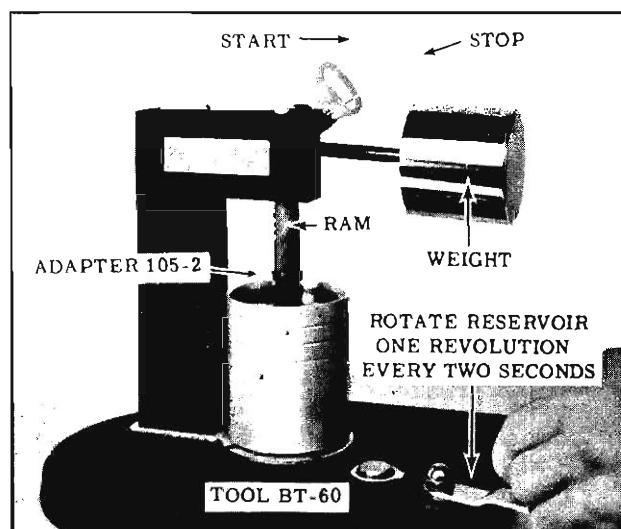

Fig. 3-117 Valve Lifter Bleed Down Test
12. Raise arm, then start test by resting ram on steel ball. Rotate reservoir one revolution every 2 seconds and time the indicator from the start to the stop line. (Fig. 3-117) Allowable tolerance for leak-down rate is 12 to 60 seconds.